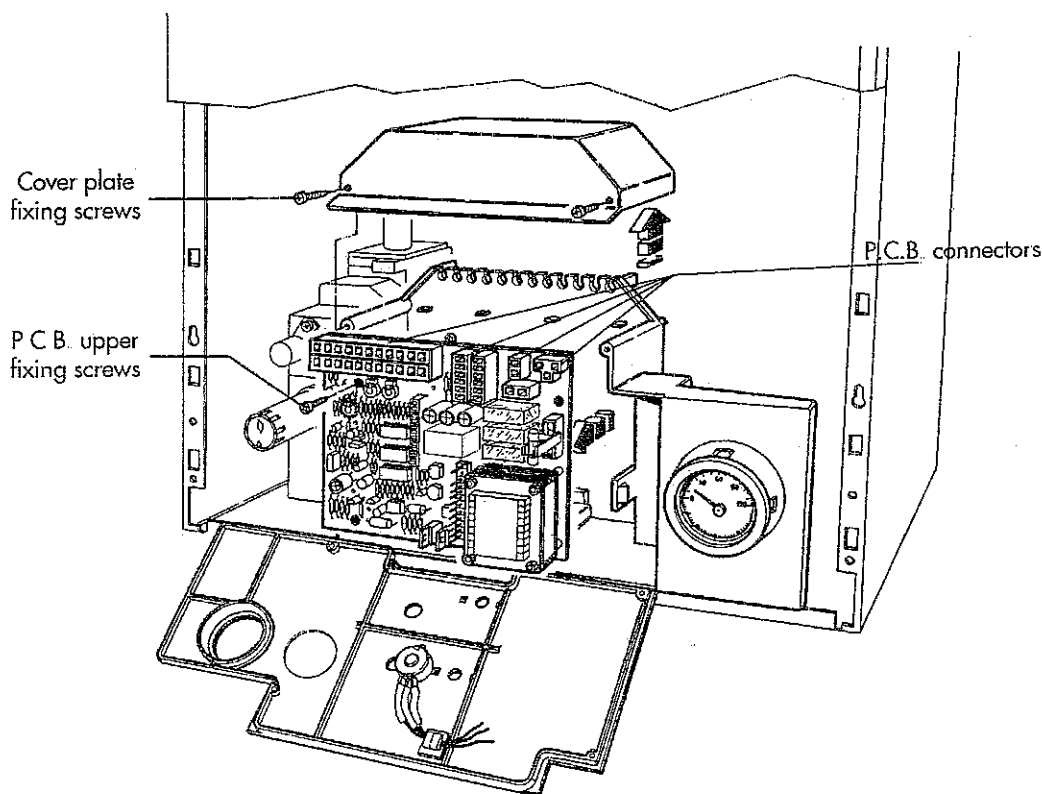

Fig 39
- b) Unscrew two fixing screws on the P.C.B. top cover plate, lift and disconnect all connectors from P.C.B. (fig. 39).